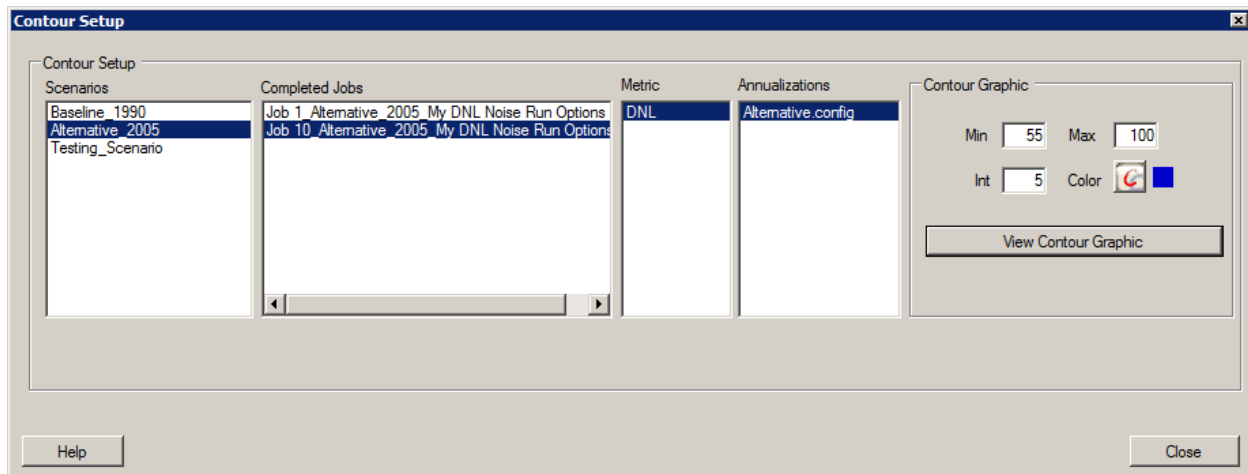

Figure 8-14 Contour Setup Dialog Box
1. From the menu bar select *Results, Contours* to open the *Contour Setup* dialog box (Figure 8-14).